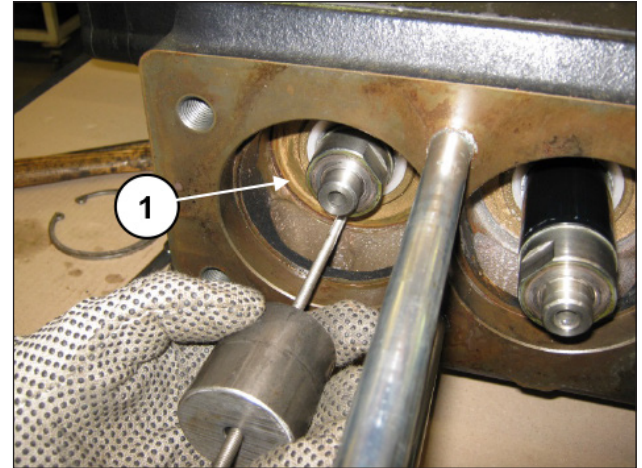

Fig. 111
Extract the wiper support. To facilitate the extraction it is possible to use the front M5 holes to apply a threaded rod with extractor hammer (pos. ①, Fig. 111).